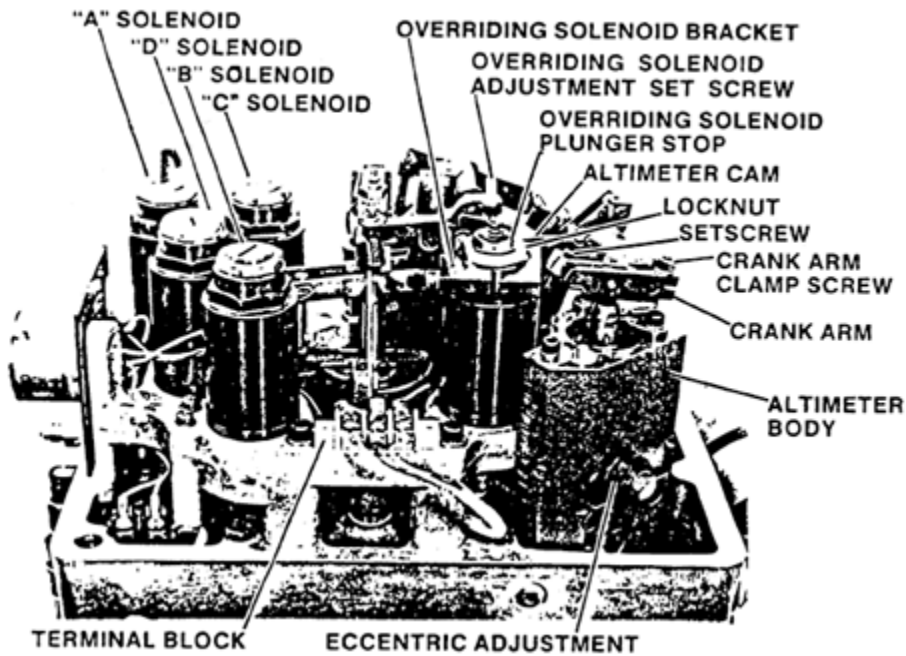

Figure 6-5. Solenoid Pack
- 5. Loosen locknut on over-riding solenoid and turn over-riding plunger stop down until it bottoms. Turn it 2.5 turns back off bottom and secure it with locknut. See Figure 6-5.
- c. Turn speed selector to step 8 (A, B, and C solenoids energized), loosen locknut on solenoid "D" and adjust stop to get a nominal speed of 994 rpm. Tolerance is 990 to 998 rpm. Tighten locknut. See Figure 6-5.
- a. Adjust set screw in crank to mid-position. At 26.8 inches of Hg absolute (90.7 kPa absolute) adjust eccentric on altitude compensation (Figure 6-5) until space between set screw on crank arm and top of altimeter body is about 0.020 inch (0.51 mm).